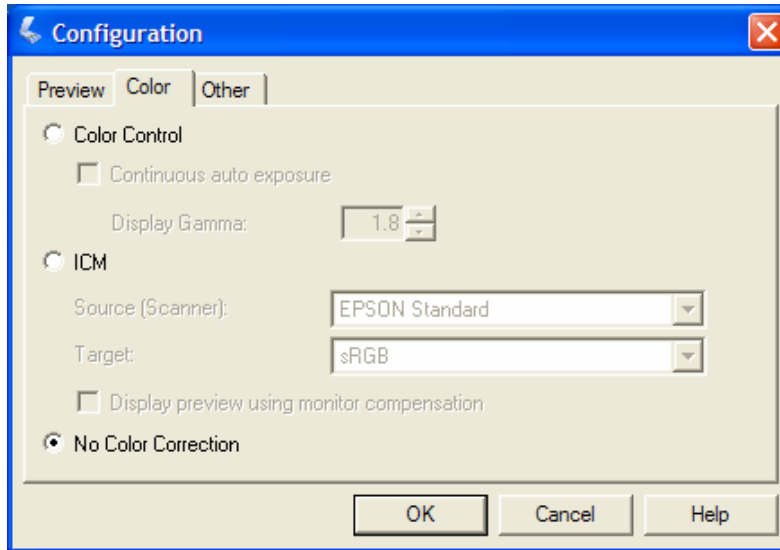
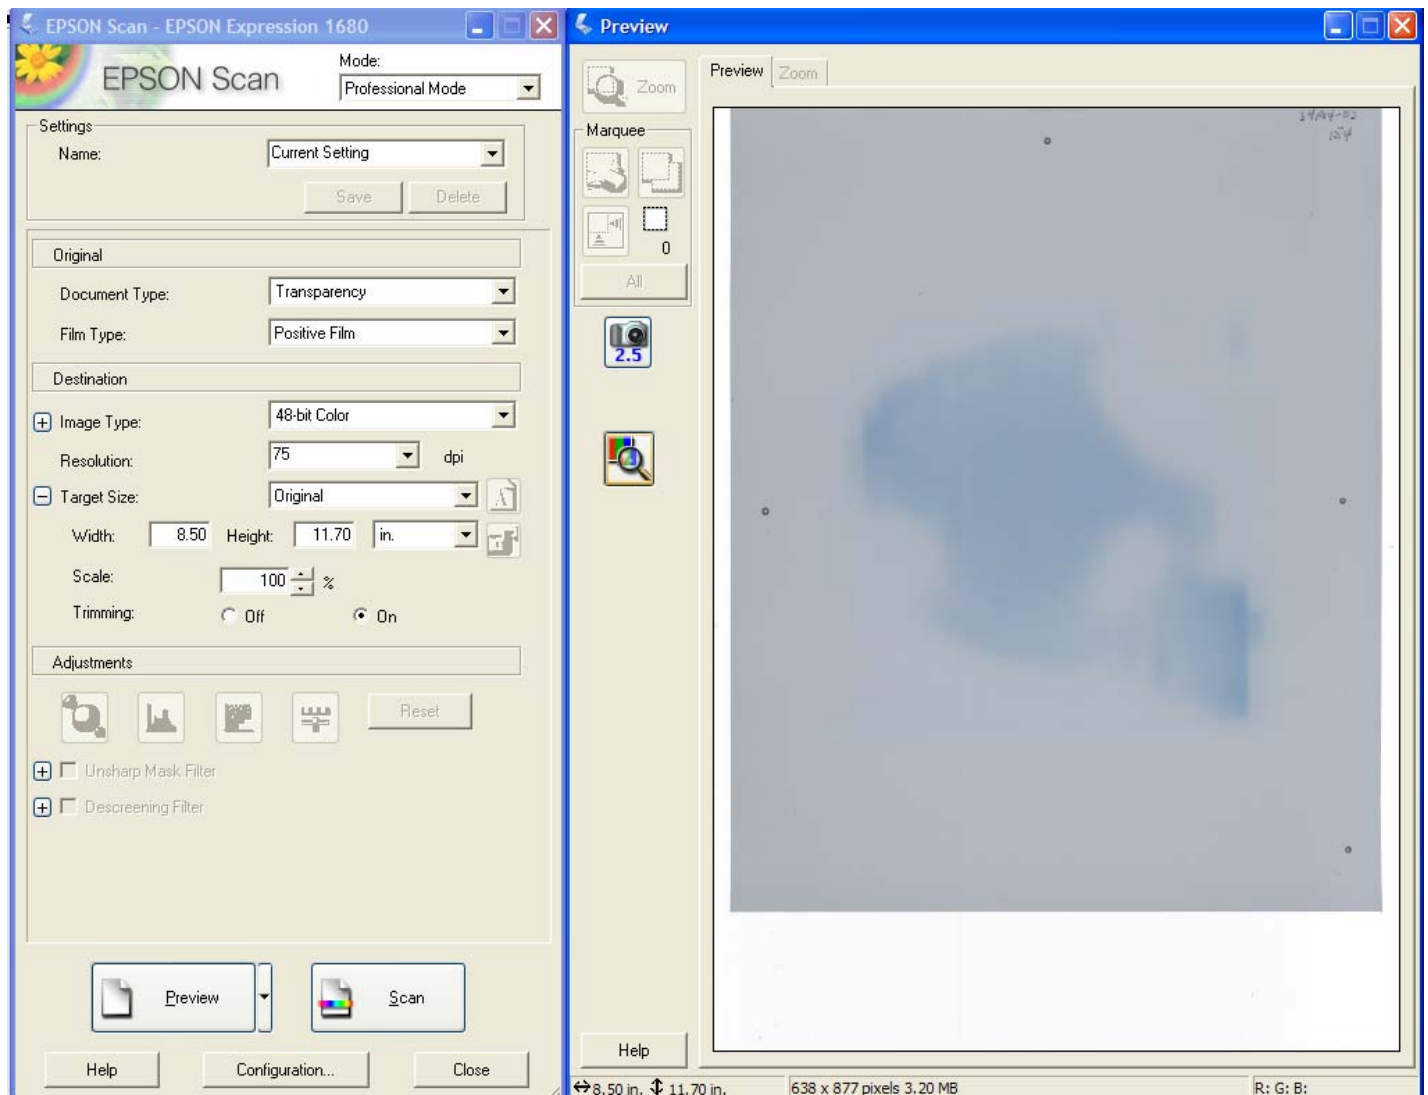

Figure 2
Figure 5
Under the “Color” tab (Figure 2) check “**No color correction**”
9. With an EBT film placed on the scanner at the top of the scan glass and centered left-to-right, make a “Preview” scan. The “Preview” window will open with the film image. If necessary adjust the position of the film left-to-right to center it and re-take the “Preview” image. In Figure 5 note that in the “Adjustments” area of the left hand window no buttons are activated. They were disabled by unchecking “Continuous auto exposure” and checking “No color correction” in Step 8, Figure 2. Color correction and auto-exposure are **undesirable** for dosimetry because they re-scale the scanner response for each image.